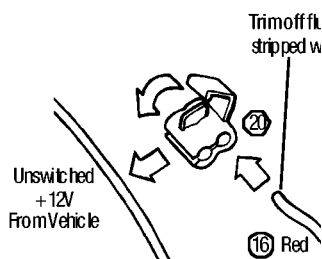

Figure 9: Splicing for Unswitched +12V
The DriveRight requires an **unswitched** +12V connection to your vehicle and a ground connection to the vehicle chassis. These connections are often most easily made at your vehicle's fusebox. A direct connection in your fusebox is best - some vehicles have extra slots for accessories such as the DriveRight. You may need to buy the proper termination for use with your vehicle's fusebox - consult your dealer or local auto parts store. Attach the termination or connector to the end of the red +12V wire with fuseholder (16) and insert into your fusebox. Otherwise select an **unswitched** wire exiting the fusebox **that does not involve safety-related equipment such as headlights, brakes and so on**. Possible candidate wires may include the wires used for the cigarette lighter, dome light (before the switch), glove compartment light, clock, tail gate light and other convenience functions. The wire used should be 22-18AWG or have the same diameter as the red +12V wire with fuseholder. Use the in-line splice (20) to make the connection to the red +12V wire with fuseholder (Figure 9). Trim off flush the stripped portion of the red wire. The fuseholder should be in the vehicle cabin.